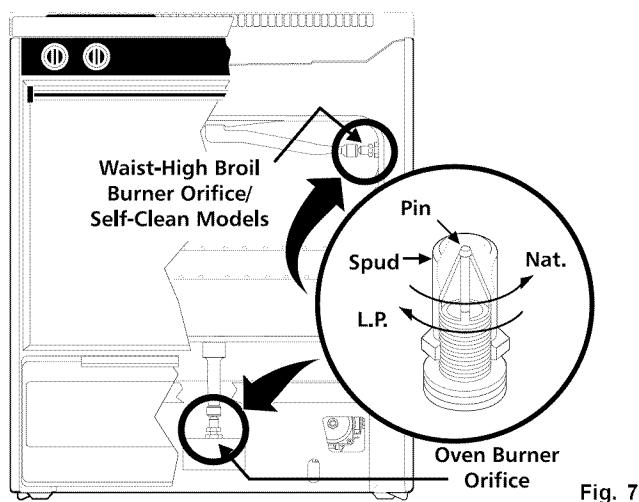

Fig. 7
- Locate the oven burner spud (See Fig. 7).
- Locate the broiler burner spud and turn down until snug against the LP/Propane metering pin (approximately 1 to 1-1/2 turns). Do not over tighten (See Fig.7).